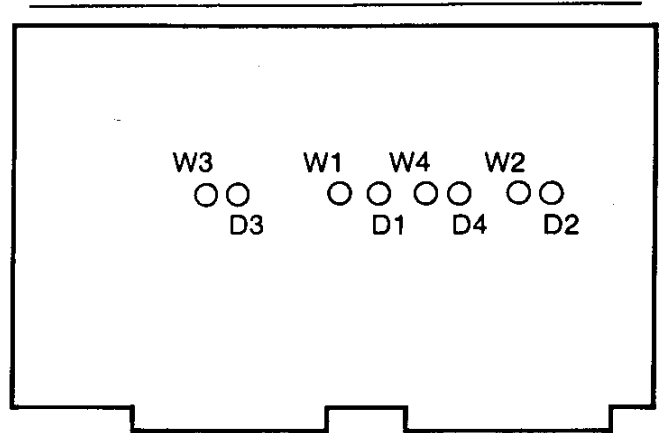

Figure 6.9 Adjustments
4. Repeat procedure for $\emptyset 2$, $\emptyset 3$, and $\emptyset 4$. See Figure 6.9 and Table 6.2.